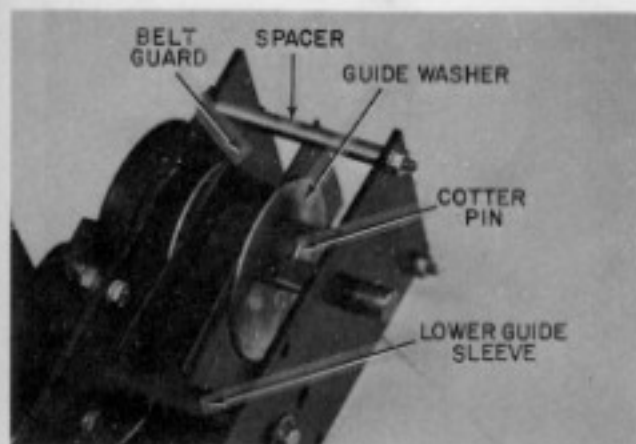

Fig. 1-21
3. Remove the lower spacer the plastic belt guard rests on, then remove the plastic belt guard. See Fig. 1-21.